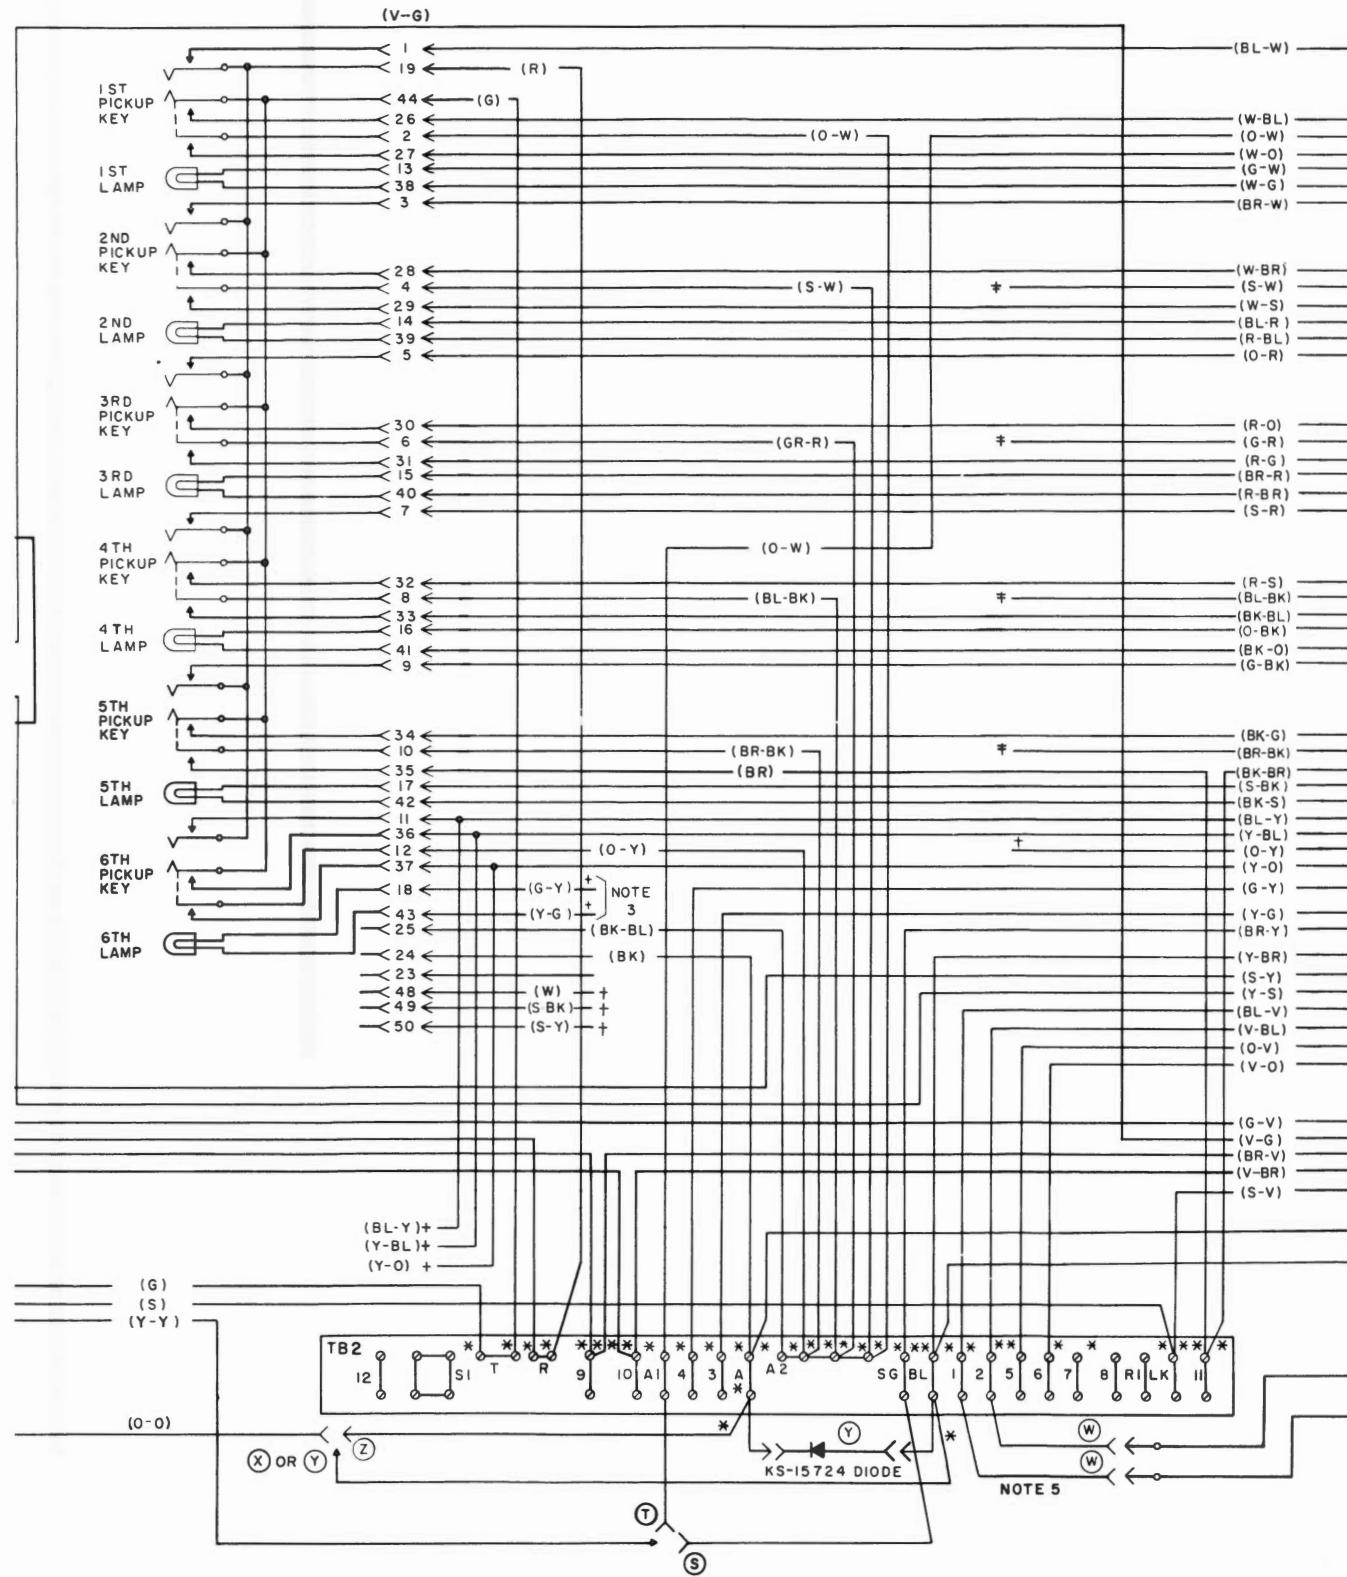

Fig. 6—661A2 Telephone Set with 598A Key
5.02 Connections for 661A2 with 598A key are shown in Fig. 6.